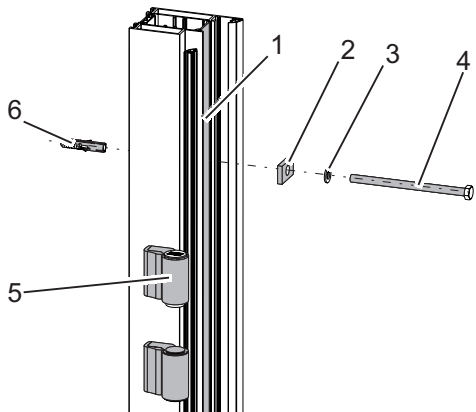
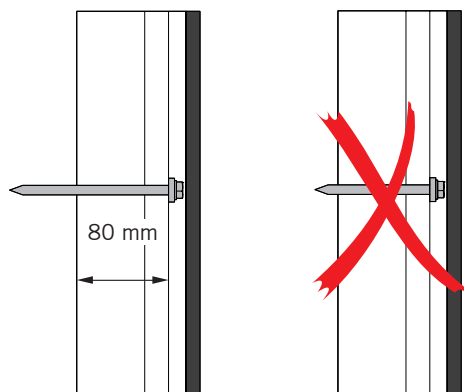

Fig. 10: Mounting the wall mounting profile
Fig. 11: Screw length
The boreholes for the wall mounting in single action doors must be drilled close to the door hinges (Fig. 10/5), if there are any.
2. Spread over the wall mounting profile, drill four centered boreholes through the plastic profile (Fig. 10/1) into the wall. Note the specifications of the manufacturer of the wall plugs.
3. Depending on the building fabric, use suitable wall plugs (Fig. 10/6) or similar.
4. Insert plates (Fig. 10/2).
5. Fasten the wall mounting profiles using suitable screws (Fig. 10/4 and Fig. 11) and suitable washers (Fig. 10/3).